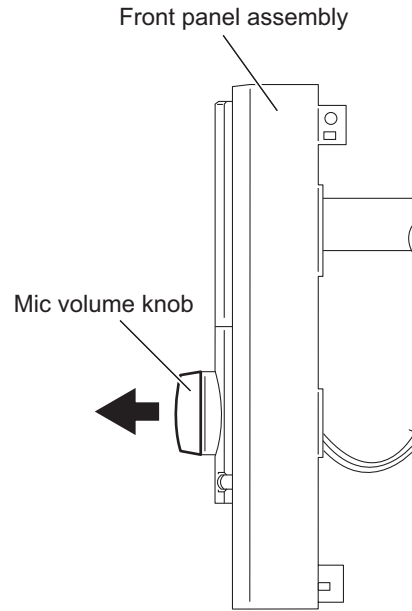

Fig.25
3.1.15 Removing the switch board (See Figs.25 and 26)
- (1) From the front side of the front panel assembly, pull out the mic volume knob. (See Fig.25.)